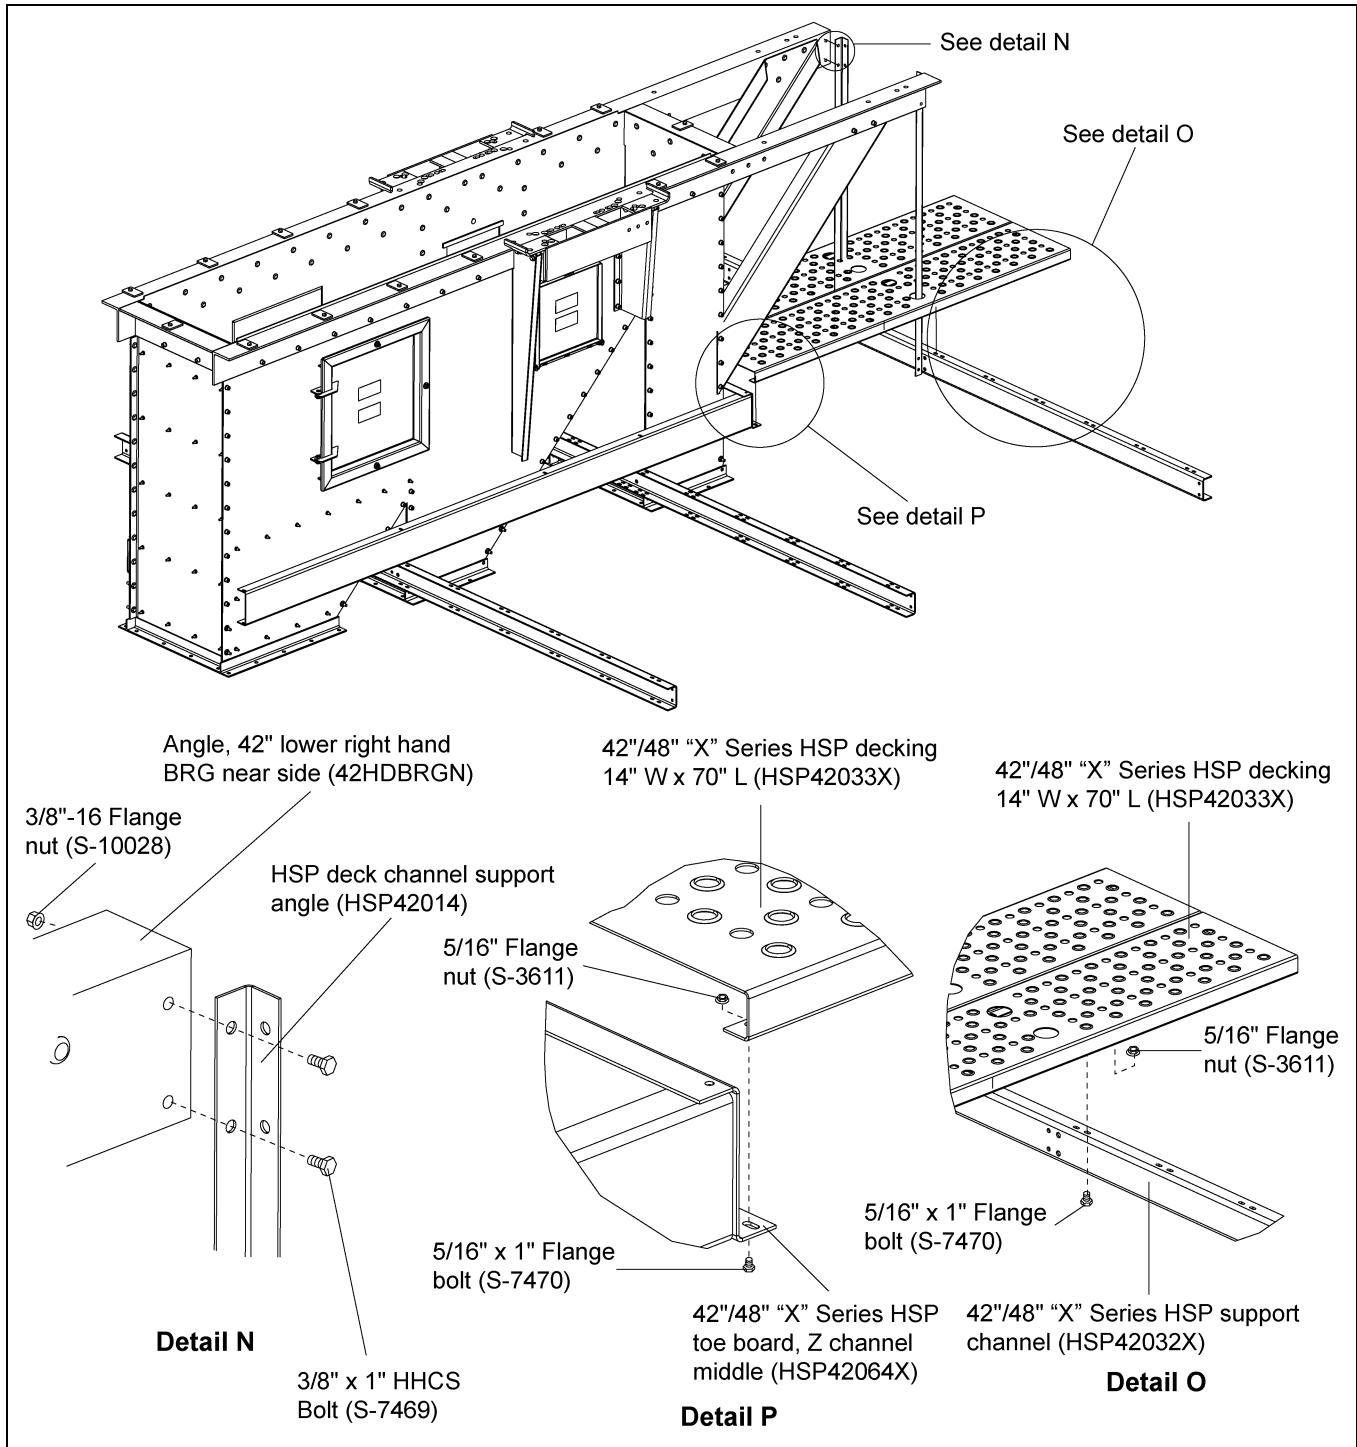

Figure 8G
4. Attach deck channel support angles (HSP42014) to the lower head bearing angle (42HDBRGN) using 3/8" x 1" HHCS bolts (S-7469) and 3/8" flange nut (S-10028). (See Figure 8G.)